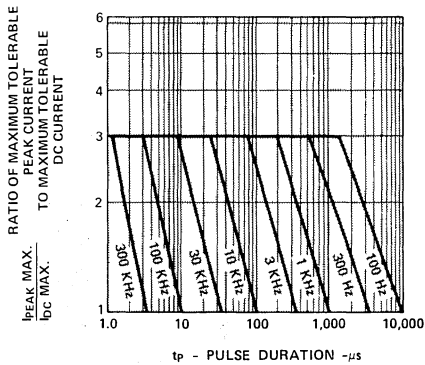

Figure 3. Maximum Tolerable Peak Current vs. Pulse Duration. (IDC MAX as per MAX Ratings.)
- Derate from $T_A = 50^\circ\text{C}$ at 0.071 V/°C, see Figure 3.